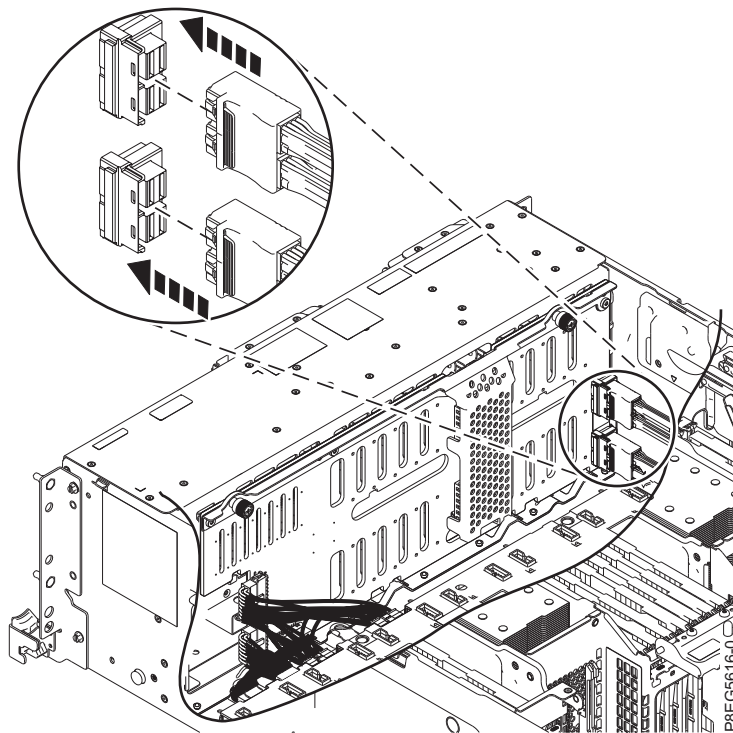

Figure 104. Reconnecting the front SAS cables
37. Reconnect the front SAS cables to the disk drive backplane as is shown in Figure 104. Push the connector in until the connector latch clicks. Arrange the cables against the side of the chassis.